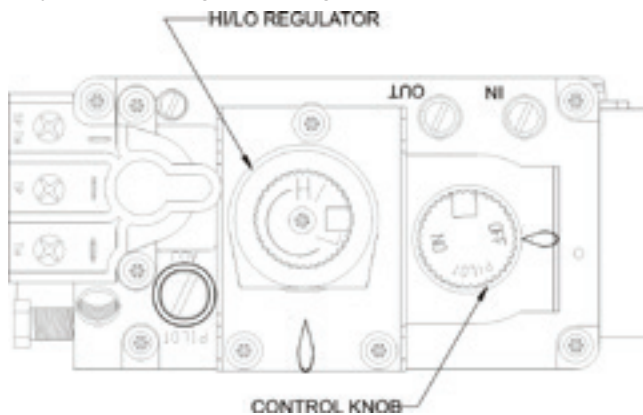

Figure 29
**NOTICE:** The gas control valve allows you to increase or decrease the height of the main burner flame. The control valve has a pressure regulator with a knob as shown in **Figure 29**. Rotate the knob clockwise to "HI" to increase the flame height and counterclockwise to "LO" to decrease the flame height.